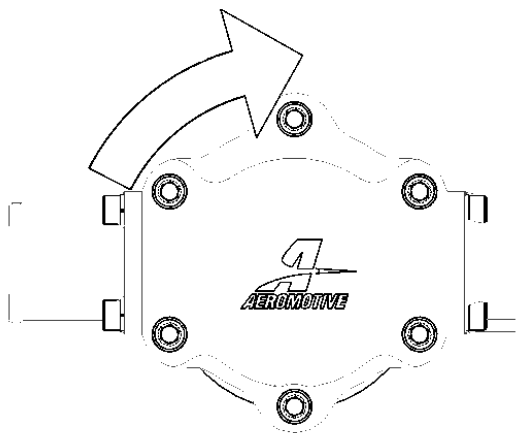
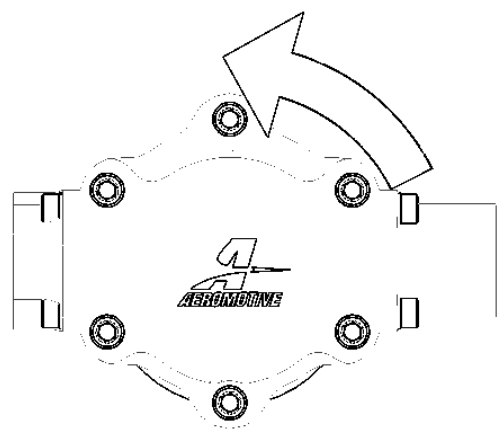

Figure 1a
Figure 1b
4. Determine which direction the fuel pump shaft will rotate. The direction the shaft is rotated will determine which port is the inlet and which is the outlet. Using Figure 1a & 1b as a reference identify the fuel pump inlet and outlet ports. If the fuel pump shaft is rotated in a clockwise direction as viewed from the front of the pump the inlet and outlet ports will be as shown in Figure 1a. If the fuel pump shaft is rotated in a counter-clockwise direction the inlet as shown in figure 1a now becomes the outlet and the outlet in figure 1a is now the inlet, this is shown in figure 1b.